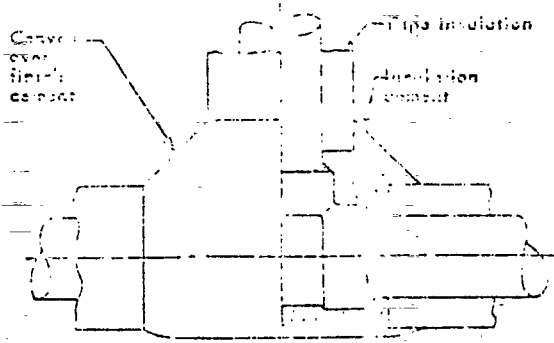

FIGURE 5
7.1 Welded fittings and valves of two inches or less and small flanges and valves of all sizes shall be insulated with block or pipe insulation, Code 702 to a thickness equal to the adjacent pipe insulation. See Figures 5 and 6.